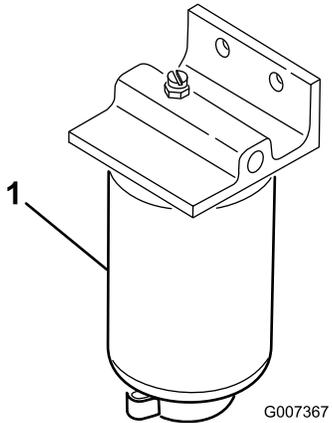

Figure 33
1. Place a clean container under the fuel filter (Figure 33).